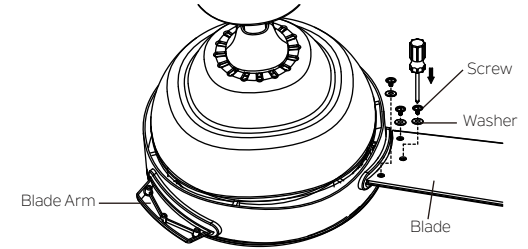

Fig. 20
Step 1. Position the blade over the blade arm with threaded posts showing. Make sure the bottom edge of the blade is fully seated against the blade arm. With a Phillips screwdriver, start a blade screw and washer into the blade arm (do not tighten) and repeat for the 2 remaining blade screws and washers. Tighten each screw securely starting with the center screw. Make sure the blade is straight. Repeat steps for the remaining blades. (Fig. 20)